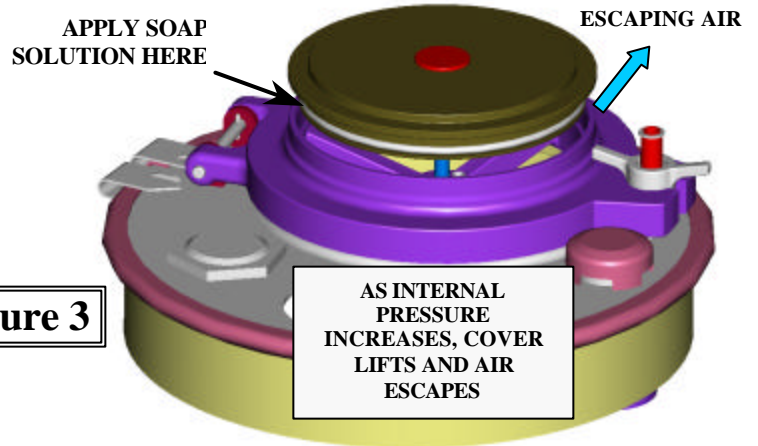

Figure 3
- 3.2.4. Apply a soap solution around the perimeter of the *Cover*. See figure 3
- 3.2.5.1. The *Cover* must move 3/8" before any venting occurs. See figure 3. Do not record the pressure at which the *Cover* first moves.